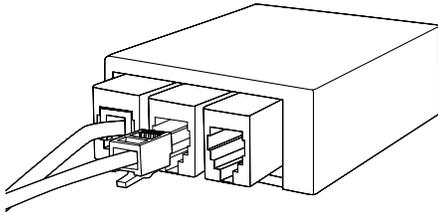

Figure 12
1. Plug the telephone style connector the lock cable assembly into the interface box (Figure 12). The interface box ports are non-specific; use any open port
1. Plug the telephone style connector of the lock cable into the interface box (Figure 12). The interface box ports are non-specific; use any open port.